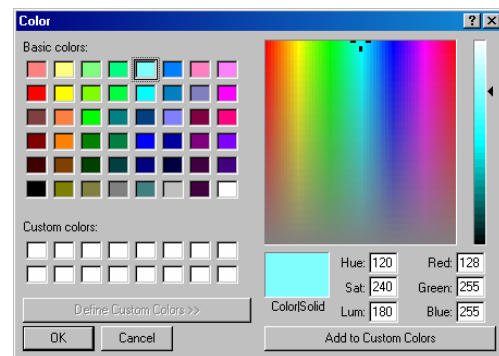

Figure 32. Picking a top color.
67. Click the top color button and pick a color (I used a light blue) Click OK. See figure 32.